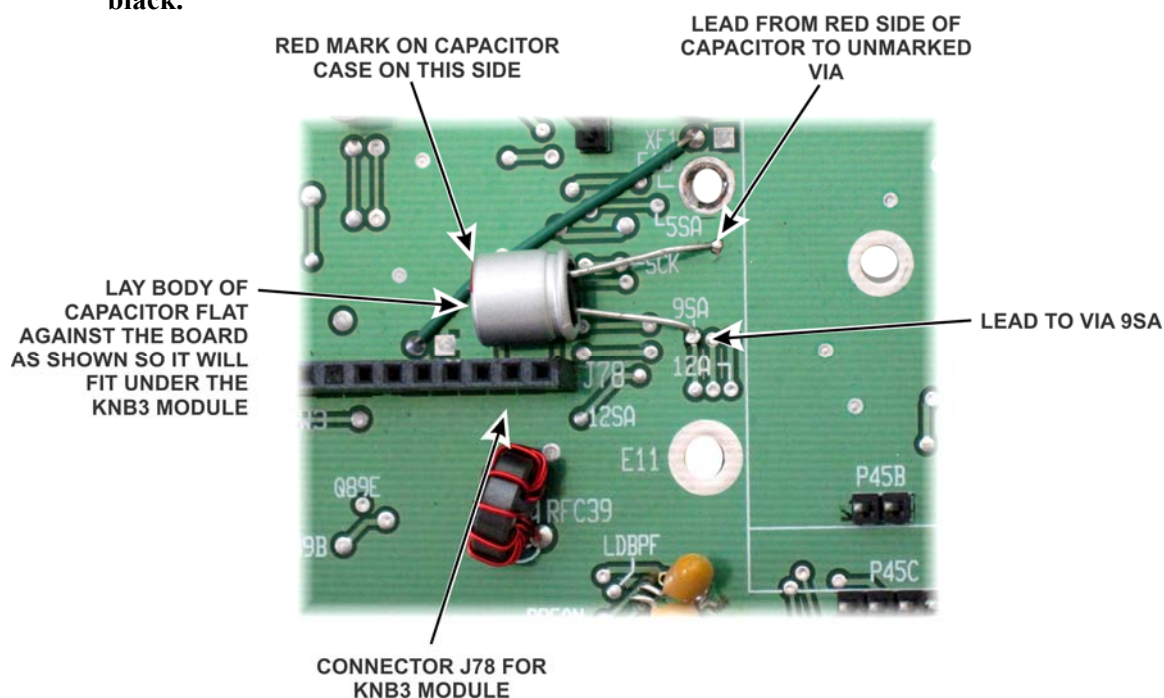

Figure A- 2. Mounting the Poly Capacitor on the KRX3 Main Board.
- Install the poly capacitor on the sub receiver main board as shown in Figure A- 2 . Bend the leads so the capacitor lays against the pc board next to J78 as shown so it will fit under the KNB3 module. The capacitor case is covered with a thin clear insulation that prevents short circuits. Recommend you solder from the bottom side of the board. Clip the leads flush after soldering.